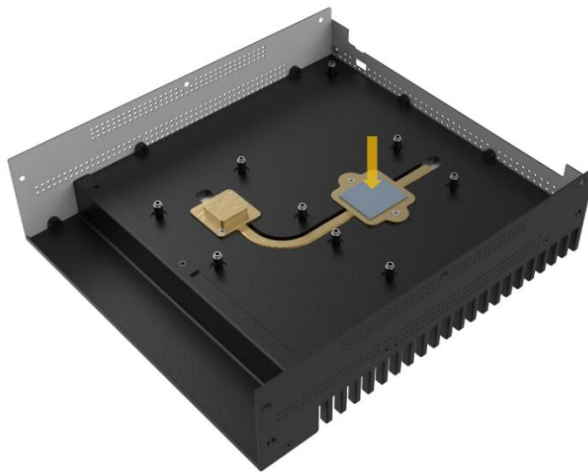

Figure 3-4: CPU Thermal Pad Installation
Step 3: Place a thermal pad on the heat conductive block of CPU (See Figure 3-4).